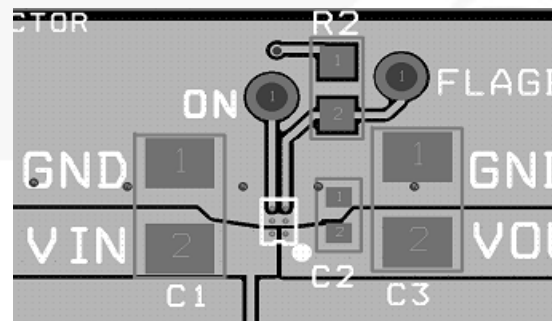

Figure 28. FPF2020X Proper Layout
- The  $V_{IN}$ ,  $V_{OUT}$  and GND pins will dissipate most of the heat generated during a high load current condition. Using wide traces will help minimize parasitic electrical effects, along with minimizing the case to ambient thermal impedance. The layout suggested in Figure 28 provides each pin with adequate copper so that heat may be transferred out of the device as efficiently as possible. The low-power FLAGB and ON pin traces may be laid-out to maximize the area available to the ground pad.